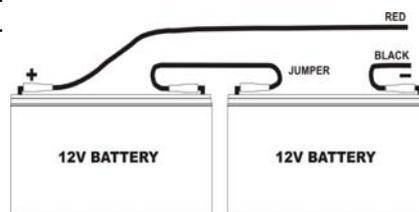

Figure 1.
- 6) Connect 2 off 12V batteries in series to give 24V and connect as shown in figure 1..